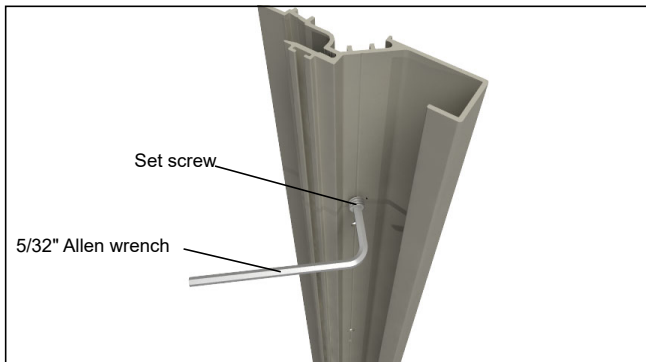

Figure 39
1. Adjust all of the pocket interlock set screws to the same reveal. See figure 39.